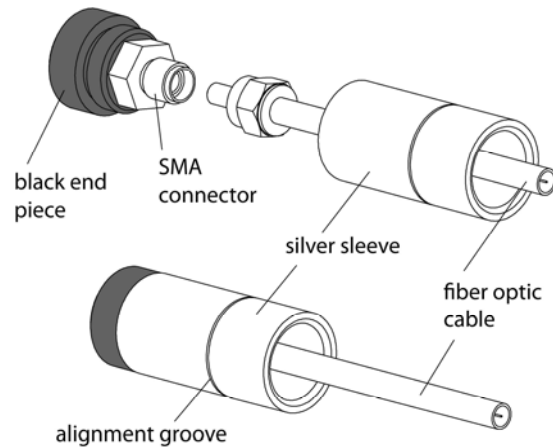

Figure 7. Attaching the fiber optic to the SMA connector
5. Now, unscrew the silver sleeve from the black end piece revealing the SMA connector (**Figure 7**).